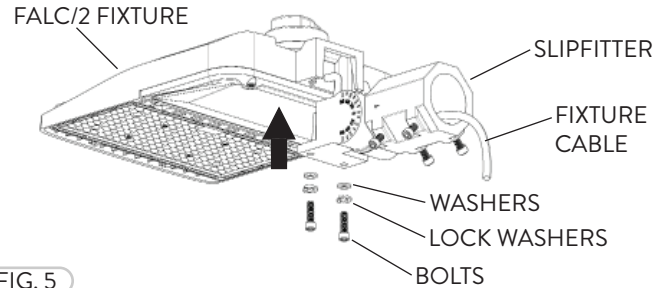

FIG. 5
- 1 The Slipfitter can be mounted easily to the FALC/2 fixture (Fig. 5). Carefully slide the Fixture Cable through the Slipfitter and fasten the Slipfitter to the FALC/2 fixture.